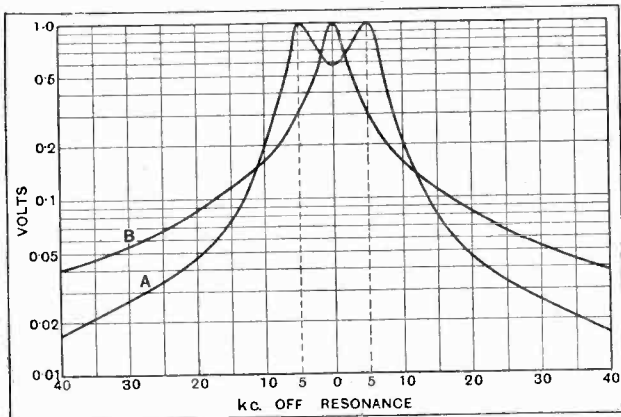
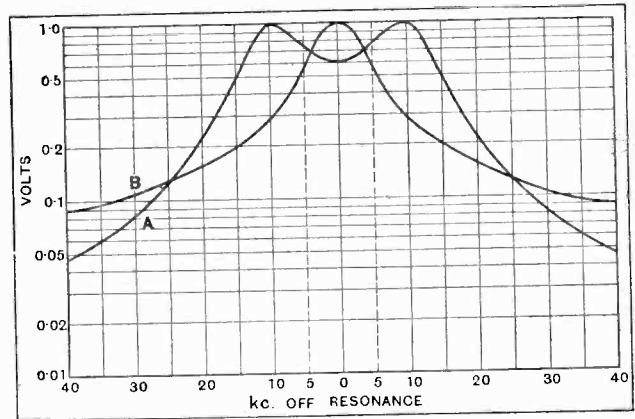

Fig. 2.—Curve A, filter in aerial circuit at 500 metres, 5 ohms coils. Curve B, single coil aerial tuned circuit at 500 metres, 5 ohms coil.
Fig. 3.—Curve A, filter in aerial tuned circuit at 250 metres, 10 ohms coil.
Curve A, Fig. 2, shows the resonance curve for a mutual inductance-coupled (or inductance-coupled) filter, where each coil has the same constants—240 mH., 5 ohms, the value of mutual inductance being 4 mH.—and the wavelength is 500 metres; while curve B is for an ordinary tuned coil in the aerial circuit, having the same constants. The curves in Fig. 3 are for the same
An inspection of these curves shows that with a wavelength of 500 metres (Fig. 2) at a frequency 40 k.c. different from the carrier the selectivity with the filter is much better than that with the ordinary tuned circuit. At frequencies nearer to resonance the filter is not quite so good; but the variation over the side-band range is 42 per cent., as compared with 69 per cent. for the single coil. The efficiency, however (see Table) is only about one-third.
The curves of Fig. 3 for the same circuits at 250 metres show that here again the filter is the better, but that the differences between the two circuits are less at this shorter wavelength. At 40 k.c. from resonance the selectivity with the filter is only slightly greater than that with the ordinary circuit, but the shape of the curves shows that at frequencies further from resonance than this it will be by far the more selective. The side-band variation is also less, being only 18 per cent. as compared with 15 per cent. for the single coil. The only fault of this curve (A) is that there may be a danger of receiving stations adjacent in wavelength to that of the desired station, as the peaks coincide with their wavelengths. This fault may be eliminated, as will be shown later.